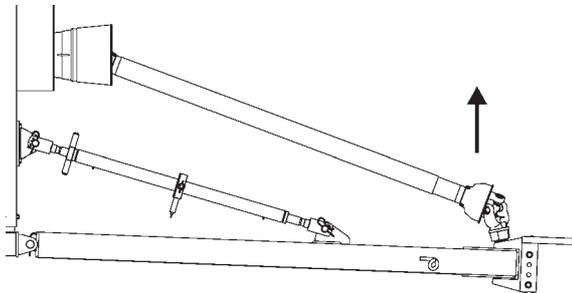

Figure 18 - Released driveshaft
1) Release the end of the driveshaft from its support on the bagging machine towbar as shown in Figure 18.